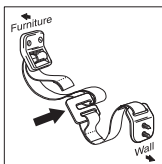

Figure 5
- Slide furniture back into position and hook silver buckle to strap on furniture bracket. (Fig. 5)